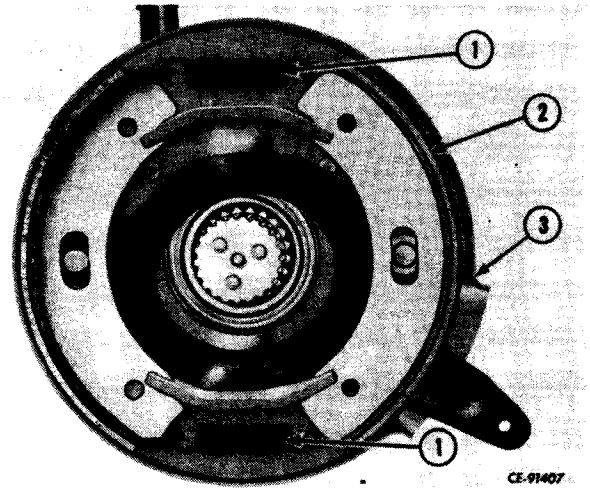

Figure 13-61
Using brake spring pliers, remove brake springs (1, Fig. 13-61) from brake shoes (2) as shown.
Install brake shoes (2, Fig. 13-61) on backing plate. Install brake springs (1) on shoes using brake spring pliers. Be sure springs are installed in rear holes.